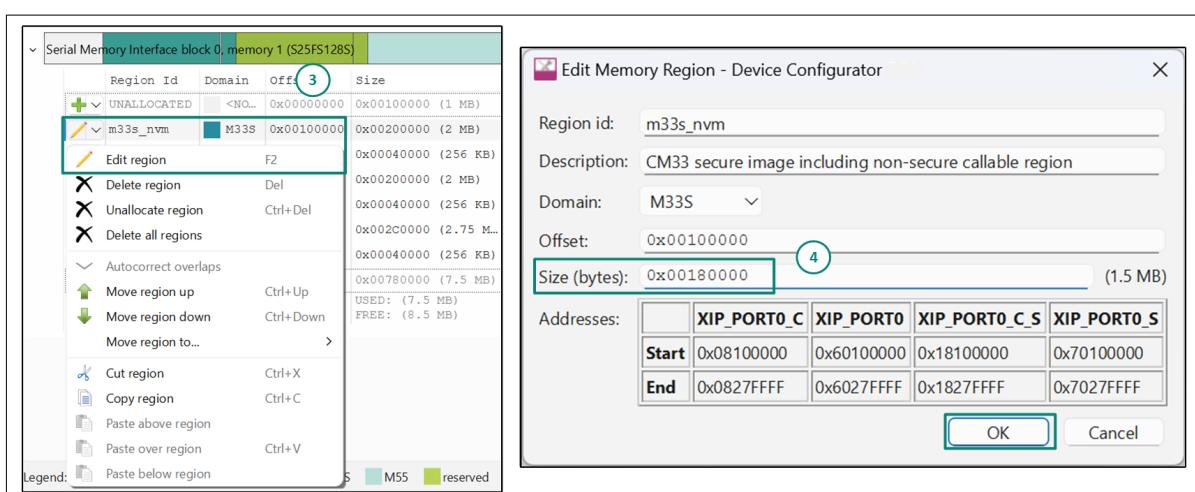

Figure 11 Edit the memory region
3. Click on the 'Pencil' icon located next to the `m33s_nvm` memory region and select 'Edit Region' from the drop down menu to open the memory region editor window as shown in Figure 11. Alternatively, you may also select the memory region and press F2 key on the keyboard to open the memory region editor window
4. Update the size of the `m33s_nvm` region to `0x180000` (which corresponds to **1.5 MB**) as shown in Figure 11. Click on 'OK' to update the memory region